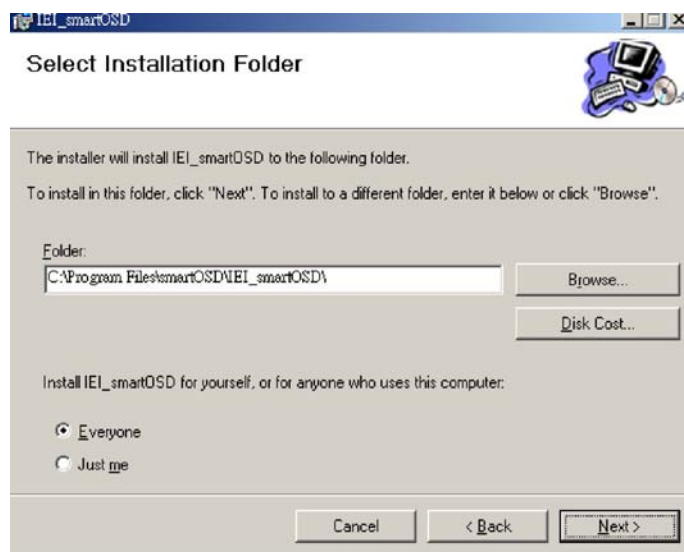

Figure C-2: smartOSD Folder Select Screen
Step 5: The Folder Select screen in **Figure C-2** appears.
Step 6: Select the installation folder in Figure C-2 shown above.